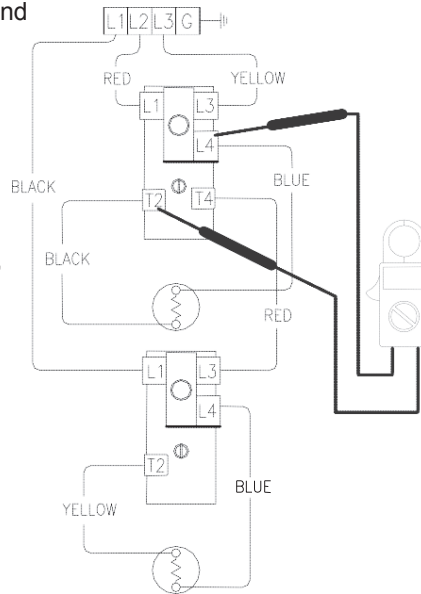

Figure 41
4. Check across terminals L4 and T2 of upper thermostat (see Figure 41).
4. See Figure 41 above. Check voltage across terminals L4 & T2 of upper thermostat.